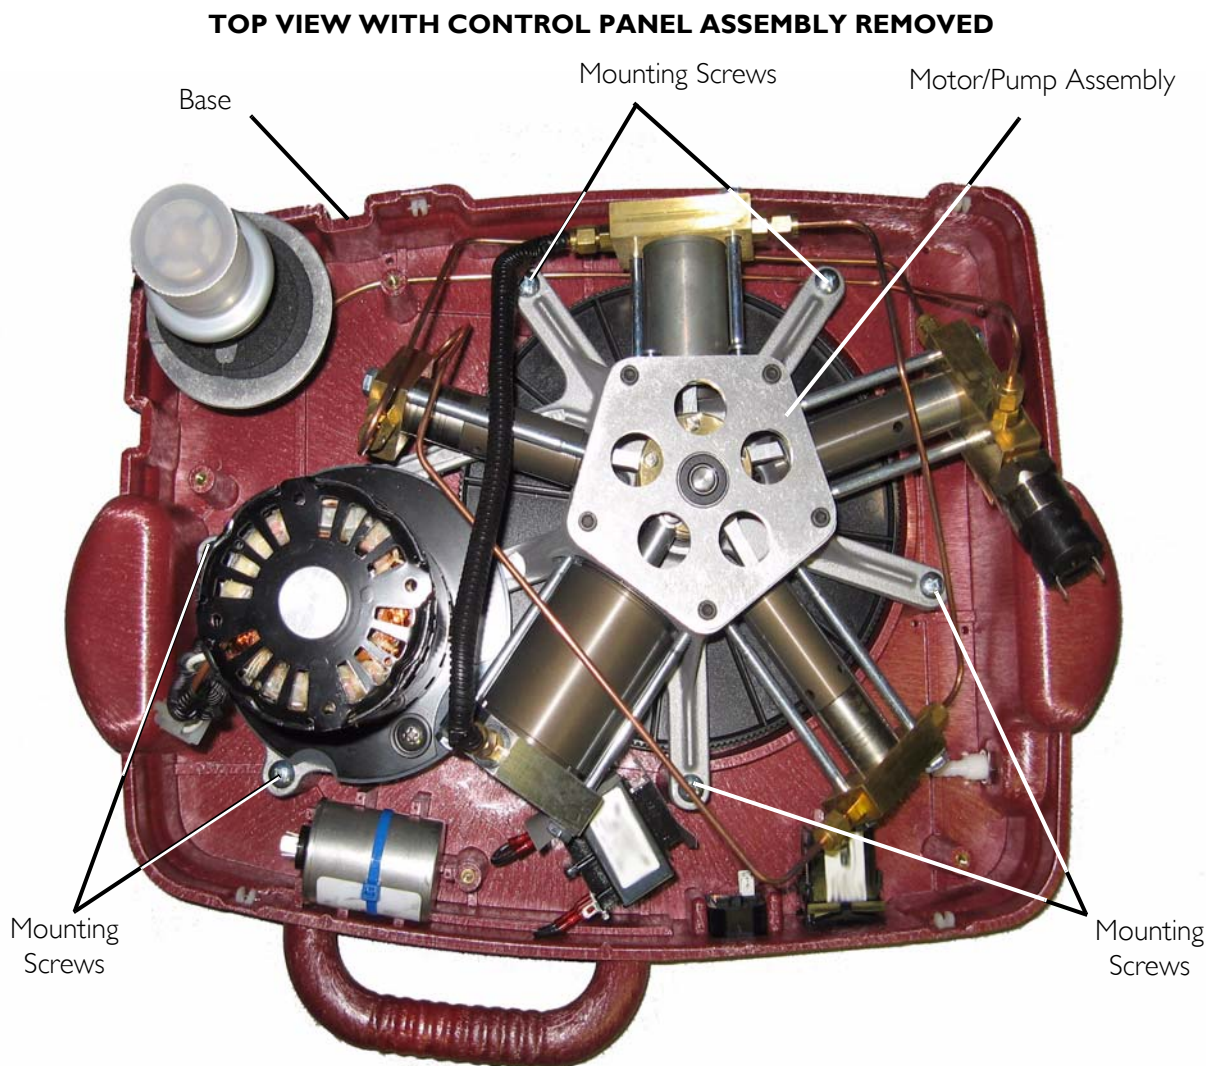

FIGURE 11.5 Belt and Pulley Upgrade
23. Remove the six mounting screws that secure the pump/motor assembly to the base (FIGURE 11.5).
14. Position the motor/pump assembly on the base (FIGURE 11.5).
15. Secure the pump/motor assembly to the base with six mounting screws. Torque mounting screws to 25-30 in-lbs (2.82-3.39 Nm) (FIGURE 11.5).